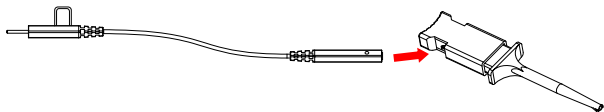

Figure 2
- ◆ Method 2: on the basis of Method 1, you can connect a grabber to each lead and connect it to the device under test as shown in Figure 2.